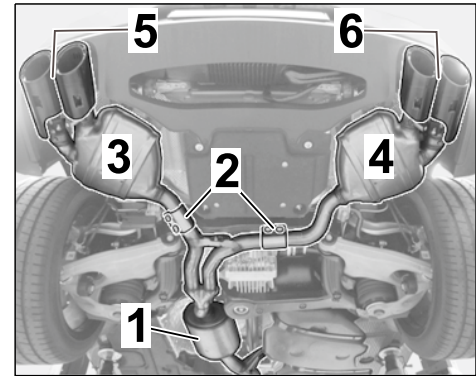

Figure 50
6.3 Install new rear mufflers (⇒ *Figure 50*).
- 3 (2) – Rear muffler (left)
- 4 (3) – Rear muffler (right)